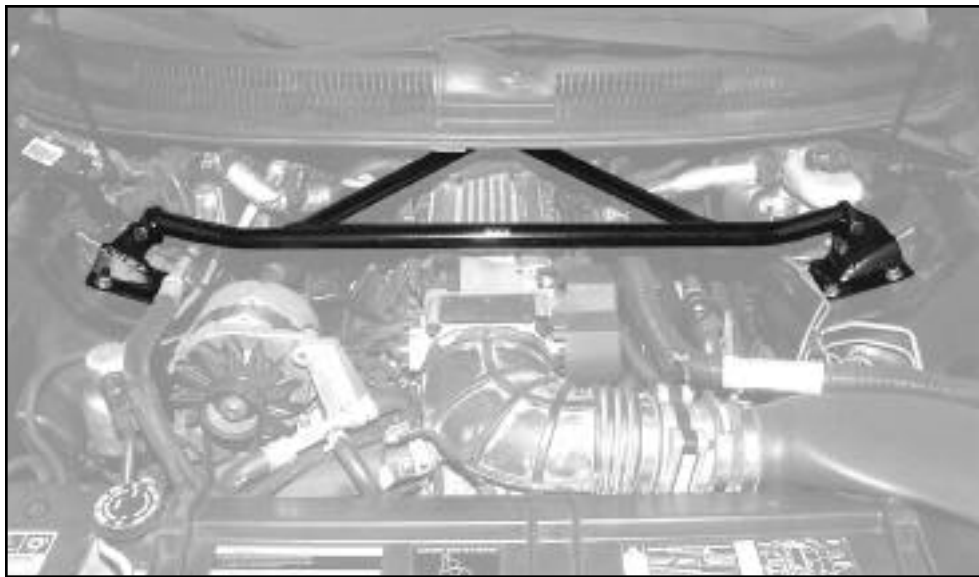

Figure 1
1. Remove three bolts on top of each strut tower that will locate end brackets (use for reference) of the Strut Tower Brace. Loosely assemble all parts and position as shown in Figure 1 (this will help locate holes to be drilled in firewall). Note that main brace outside support brackets will only install in one position.